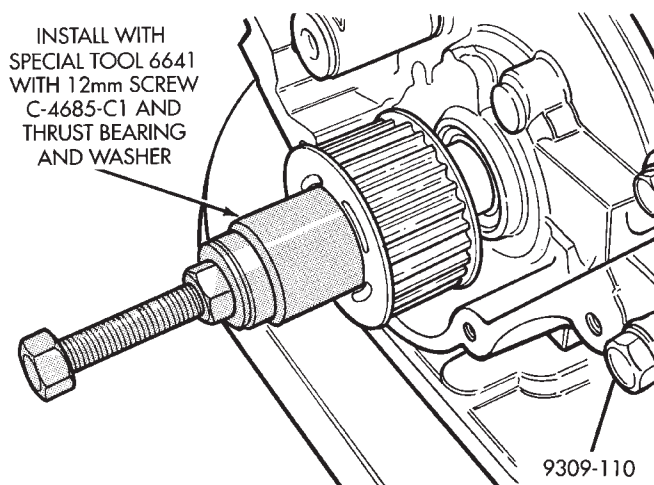

Fig. 82 Crankshaft Sprocket—Installation
(3) Install crankshaft sprocket using special tools shown in (Fig. 82).